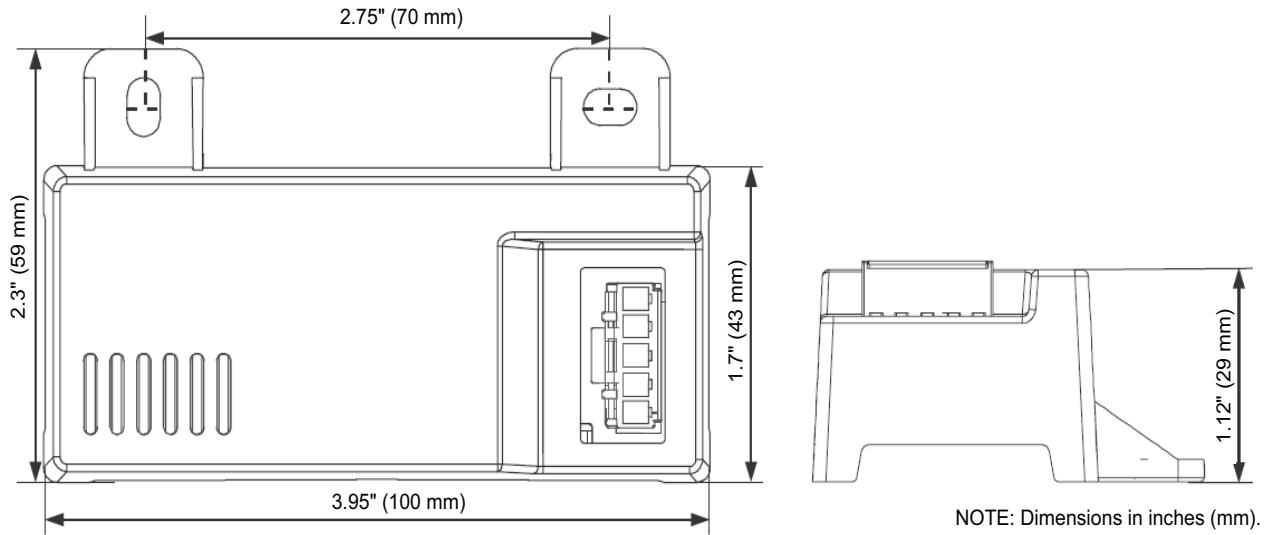
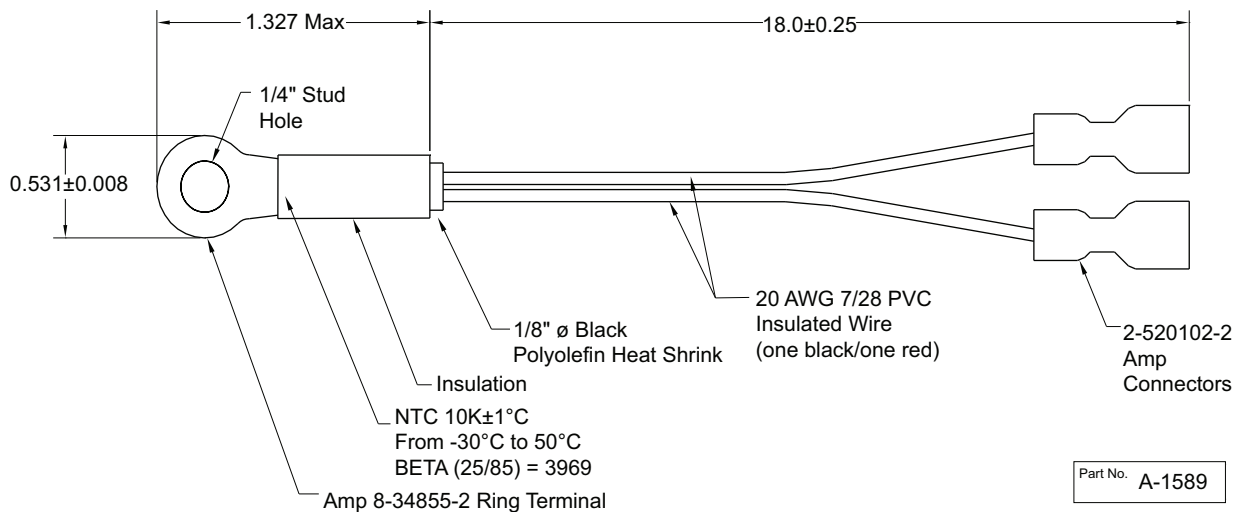
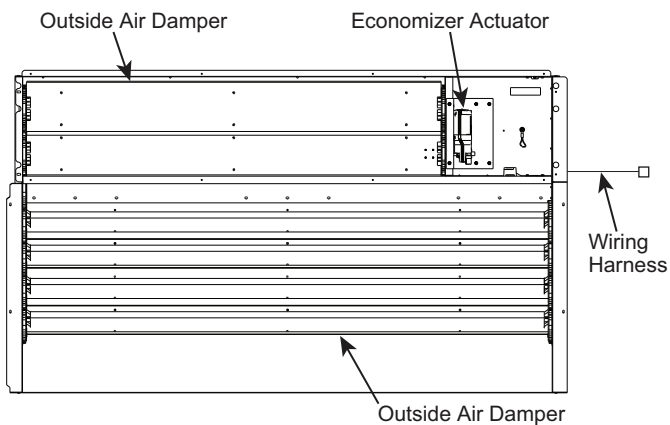

Fig. 70 — 1196582 Dimensional, Connection and Switching Information
Fig. 71 — 1193547 Dry Bulb and Mixed Air Sensor Wiring
Fig. 72 — EconomizerONE System Component Locations
When using the 1196582 enthalpy sensor (see Fig. 70) for outside air changeover, the existing 1193547 dry bulb sensor (see Fig. 71) must be removed. The enthalpy sensor will be mounted in the same location as the dry bulb sensor (see Fig. 72). When the enthalpy sensor's OA (Outside Air) temperature, enthalpy, and dew point are below their respective set points, outside air can be used for free cooling. When any of these are above their set point, free cooling will not be available. Enthalpy set points are configurable and create an enthalpy boundary according to the user's input. For additional details, see Fig. 73-74 and Table 27.
The optional enthalpy control sensor (P/N: 1196582) communicates with the POL224 economizer controller using the 5-wire harness, 1201876. The 1196582 sensor can be used as a single outside air enthalpy, a differential return enthalpy, or a differential return temperature sensor. Refer to the base unit control wiring diagrams found earlier in this book to wire the 1196582 enthalpy sensor for each option. See Fig. 70 and Table 29 on page 54 to locate the wiring terminals for each enthalpy control sensor.
Economizers are shipped standard with an 1193547 outside air dry bulb sensor (refer to Fig. 71). System default setting (high temp limit) is 63°F (17°C) and has a range of 48°F to 80°F (9°C to 27°C). Sensor is factory installed on economizer.
If installing the optional 1196582 enthalpy sensor, the 1193547 dry bulb outside air sensor must first be removed. Wire sensor to harness 1201876 and the (5) wires from the harness to the EconomizerONE harness in the return air chamber. Harness 1201876 has a 5-pin plug that connects directly to the 1196582 enthalpy sensor. Refer to the base unit control wiring diagrams earlier in this book for wiring connections. Refer to Fig. 70 and see Table 29.